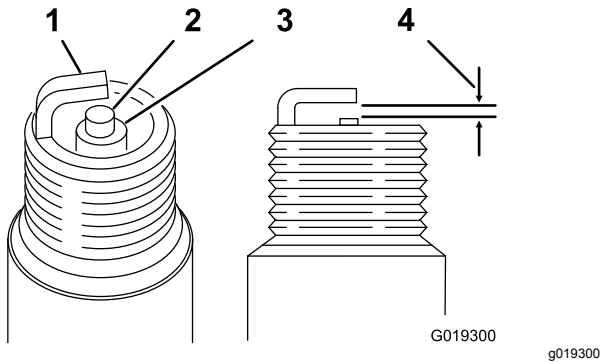

Figure 33
Air Gap: 0.70 to 0.80 mm (0.028 to 0.031 inch); refer to Figure 33
3. Set the air gap to 0.70 to 0.80 mm (0.028 to 0.031 inch) (Figure 33).